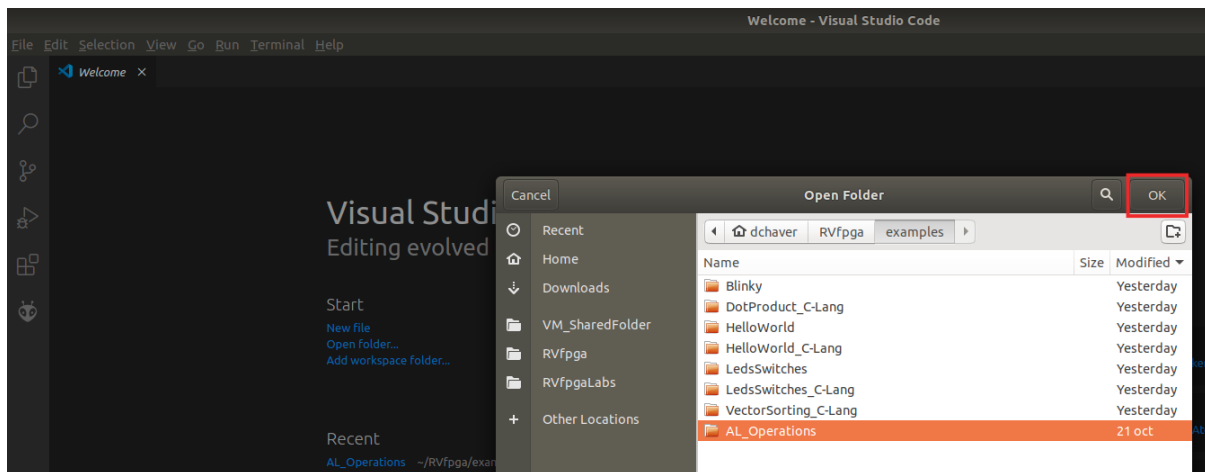

Figure 34. Open `AL_Operations` folder
- Select the PlatformIO project that you are going to use. In this section, as an example, we use `AL_Operations`, the first example mentioned in Table 9, that you will debug in the next section, but you could follow the same steps with any other example. Thus, select directory `AL_Operations` (do not open it, but just select it – see Figure 34) and click OK at the top of the window. PlatformIO will now open the example.